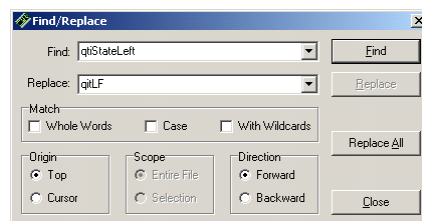

Figure 3-20
- ✓ Enter `qtiStateLeft` into the Find field and `qtiLF` into the replace field as shown in Figure 3-20.